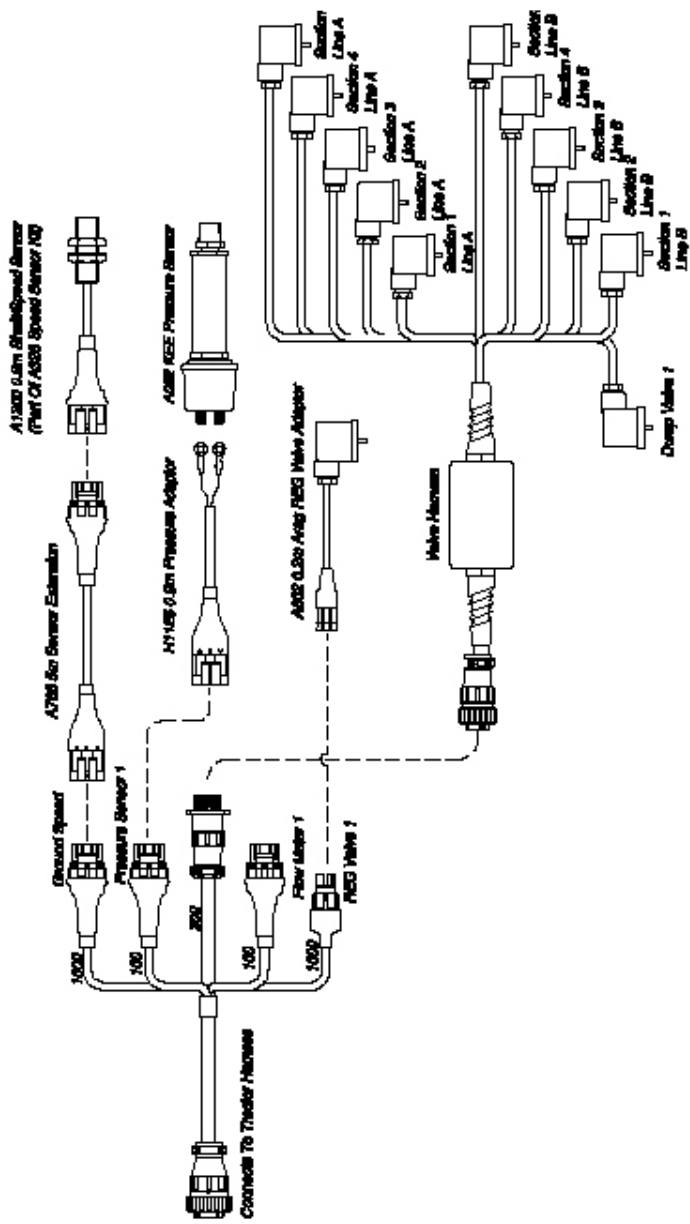

Figure 5-5. General Sprayer and Valve Harness assembly
Figure 5-5 on page 5-10 shows the Sprayer Harness and Valve Harness Assembly.
The typical Sprayer Harness has 5 connectors (Figure 5-5 on page 5-10), which are labelled:
1. Connect the Flow Meter 3-Pin Connector to the 3-Pin connector marked Flow Meter 1 on the Sprayer Harness (Figure 5-5 on page 5-10)
1. Connect the Regulator Valve’s 2-Pin connector to the 2-Pin connector marked REG Valve 1 on the Sprayer Harness (Figure 5-5 on page 5-10), using the Regulator Valve Adaptor Harness (A802) (Figure 5-5 on page 5-10)
1. Mount the Pressure Sensor (A092) (Figure 5-5 on page 5-10) either upright or horizontally and support the Brass Gauge saver
To properly measure Spray Line operating pressure the Pressure Sensor must be positioned between the Flow Meter and the Section Valves (Figure 5-5 on page 5-10).
2. Connect the Pressure Adaptor Harness (H1125) to the connector labeled Pressure Sensor 1 on the Sprayer Harness (Figure 5-5 on page 5-10)